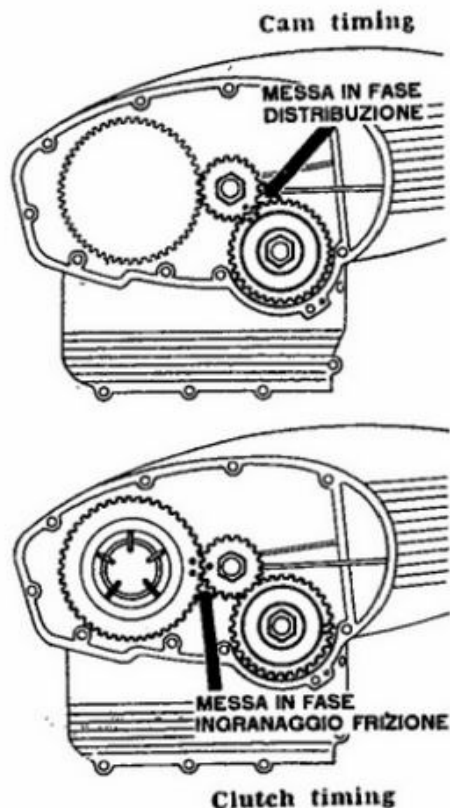

Fig. 8
The cam and the various cam gears have timing reference marks stamped thereon, see Fig. 8).
- These marks must correspond as shown when the piston is at top dead center and both valves are open and in alignment. It is important that the clutch gear is always in the proper position in reference to the cam gear (see Fig. 8). The relation between the clutch gear and the timing gear is as shown in Fig. 8.